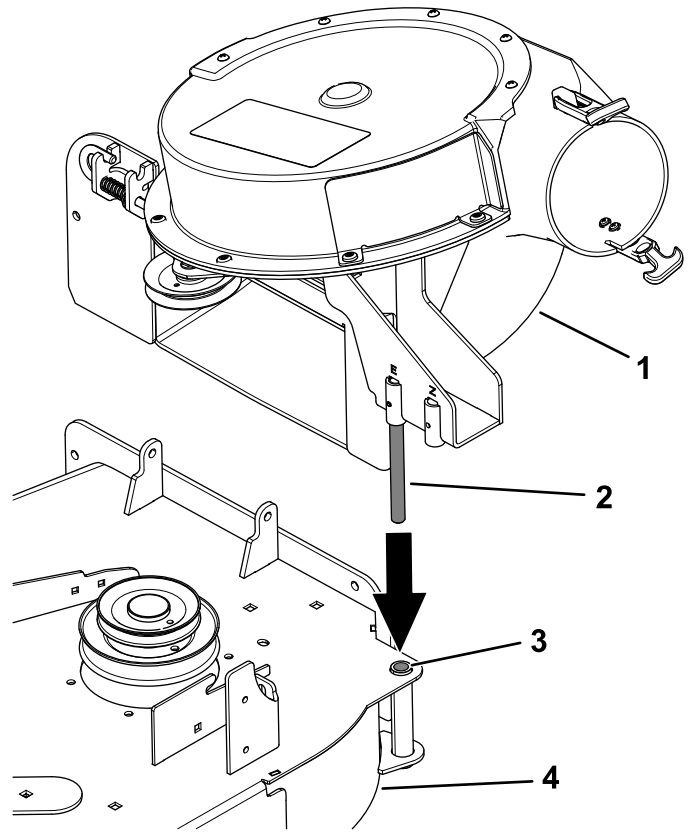

**Figure 40**
Verify that the pivot pin is secured on the blower assembly in the correct location (Figure 40).
- If you have a 48-inch or 52-inch mower deck, install the pivot pin in the front hole (Figure 40).
- If you have a 60-inch mower deck, install the pivot pin in the rear hole (Figure 40).